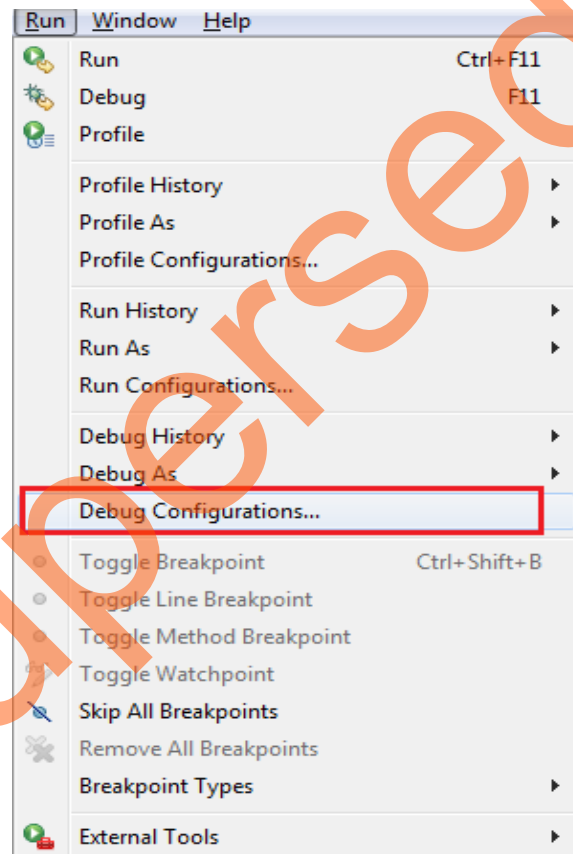
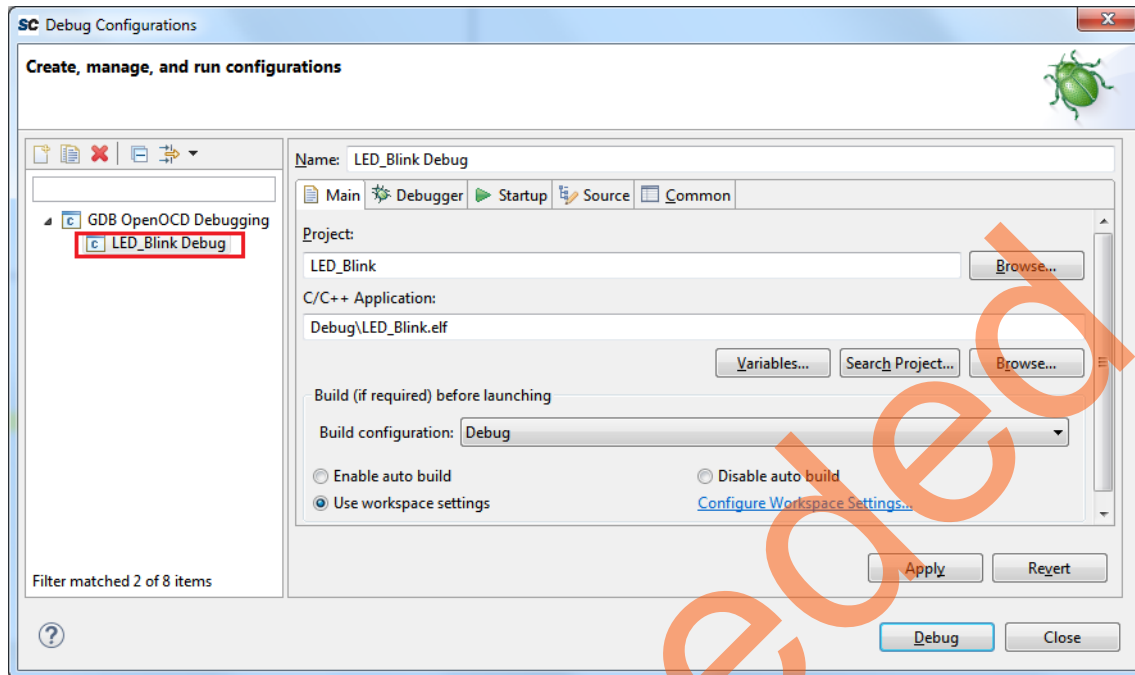

Figure 40 • Run - Debug Configurations
Figure 41 • Debug Configurations
1. Click **Debug Configurations** in the **Run** menu of the SoftConsole, as shown in Figure 40. The **Debug Configurations** window is displayed as shown in Figure 41 on page 30.
2. Double-click **GDB OpenOCD Debugging** to view the configurations, as shown in Figure 41.